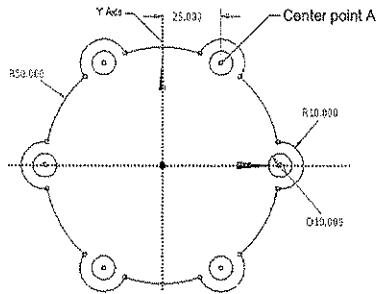

Figure 4-56 Final sketch for generating the model
21. Invoke the **General** tool from the **Dimensions** toolbox and generate the dimension between the Y axis and the Center point A, refer to Figure 4-56. All sketched entities turn blue, indicating that the sketch is fully defined.